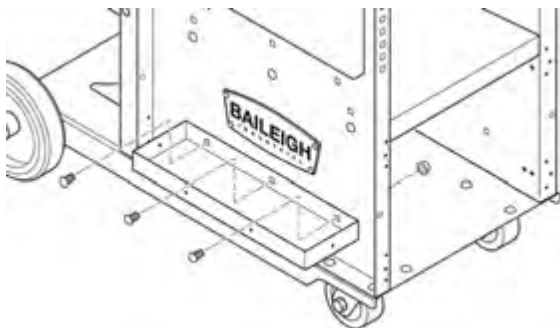
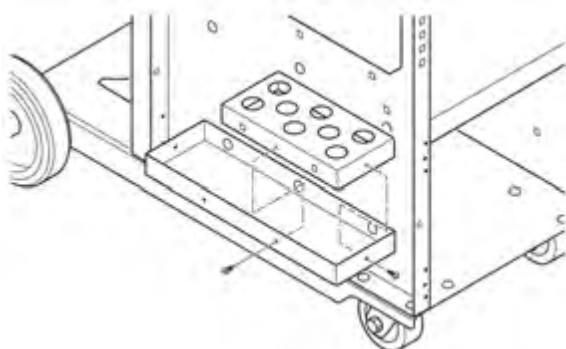

Figure 4-10
Figure 4-11
11. Using Three M8 x 20 Round-Head Square-Neck Carriage Bolts (item #2) with M8 Flanged Nylock Hex Nuts (item #4), attach Side Shelf (item #10) to cart assembly Side Panel as shown in Figure 4-10. **Fully-tighten these nuts.**
12. Place remaining Tig Filler Rack (item #11) into the Side Shelf as shown in Figure 4-11. Make sure this lower Tig Filler Rack is positioned directly below the upper Tig Filler Rack. Attach to the Side Shelf using two ST4.8 x 13 Screws (item #9) as shown in Figure 4-10. **Fully-tighten these screws.**